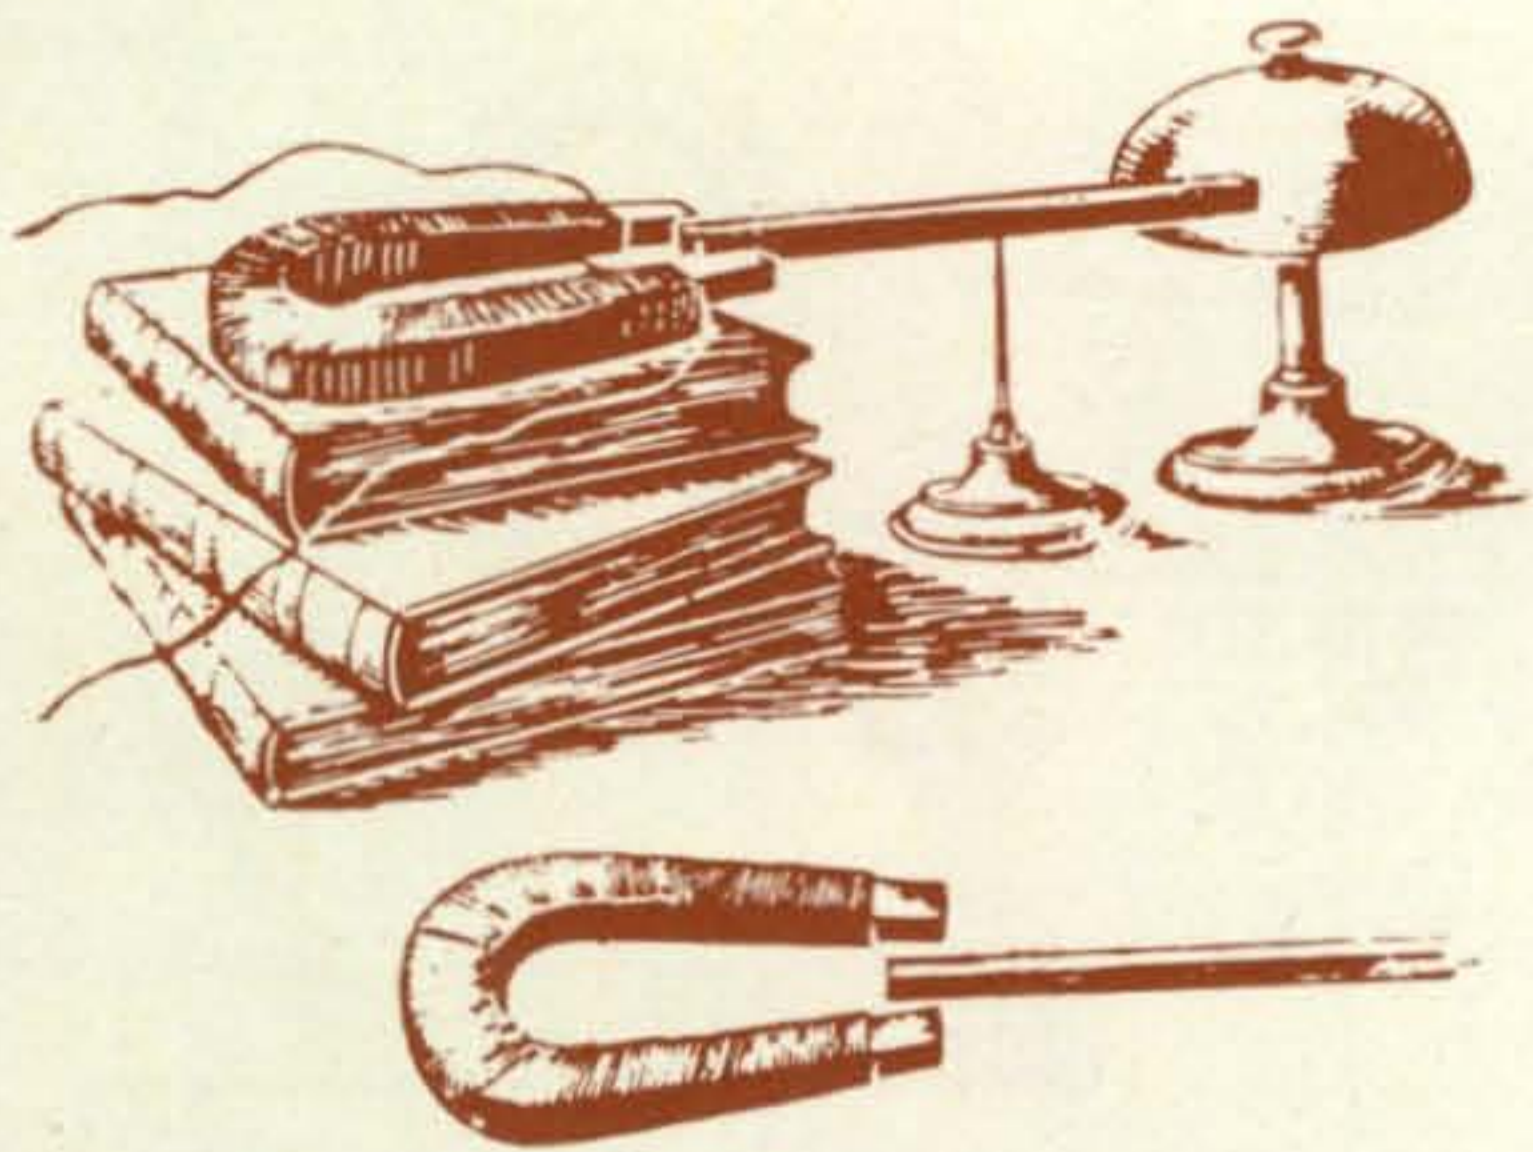

Fig. 3—Professor Joseph Henry's telegraph apparatus, first demonstrated at the Albany Academy in 1832.
Fig. 3—Circuit of an antenna tuner designed for use with the No. 19 set. The switch positions for S_1 are 1 — Loading Coil Only; 2 — Series Capacitance; 3—Parallel Capacitance. Switch S_2 is a tap switch from a BC-375E tuning unit. The thermocouple, T_c , can be obtained from the antenna r.f. ammeter of an ARC-5. Inductor L is made up of 15 turns of Air Dux 2006T and tapped every other turn.
r.f. sensing circuit which fed a d.c. signal back on the coax. I felt it was desirable to retain this feature. Figure 3 is the circuit of the new antenna tuner. The circuit was built on a piece of aluminum plate drilled to match the original variometer mounting holes. An aluminum shield was made to completely enclose the tuner. In use, the transmitter final is dipped, the meter switch is set at the AE position, and the tuner adjusted for maximum r.f. output. The tank should be checked for resonance during the tuning process. In general, for electrically short antennas the loading coil alone was used, for electrically long antennas the series capacitance position was used.
(through wires) by means of the electro-magnet. It was Henry who reasoned that in order to increase the strength of the magnet one had to increase both the size of the battery and the number of turns of wire on the rod. It would also be Henry who would establish the need for, and practicability of insulated wire. The Henry apparatus, fig. 3, consisted of a horse-shoe magnet in a horizontal plane and a permanently magnetized steel bar with its North pole placed in the opening of the horse-shoe. The steel bar was balanced on a pivot, and at the free end stood a small bell. When the horse-shoe magnet was energized, the North end of the bar would swing toward one end of the horse-shoe while the other end would strike the bell. The demonstration was carried over a one mile length of wire stretched through several rooms of the large hall. By making and breaking contact with the battery supplying voltage to the magnet, discernible information could be transmitted by the number of times or the sequence of bell ringings. Historically then, this would have to be considered the first working telegraph.